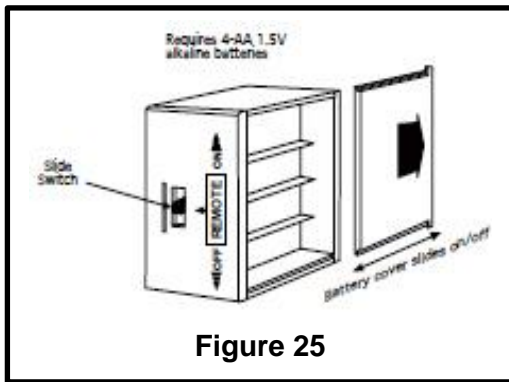

Figure 25
2. Locate the receiver that is attached to the side of the burner unit (Figure 25), detach it, slide open the cover, and insert the 4 included alkaline AA batteries by sliding open the batter cover, inserting the batteries, and sliding the cover closed.